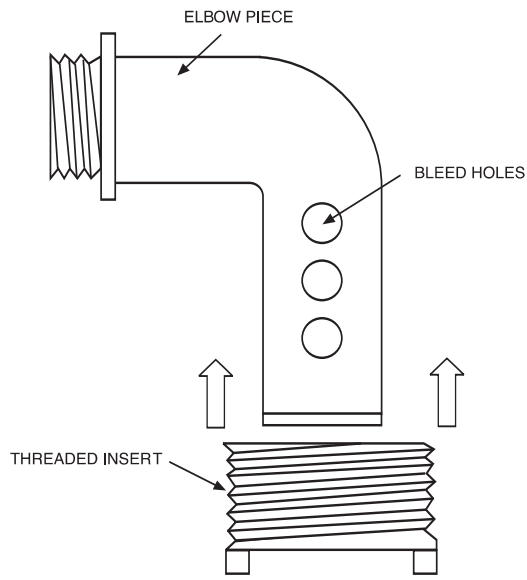

FIGURE 4
2. Slide the threaded insert (7) over the Elbow Piece (8) as shown in Fig. 4. The threaded insert (7) is a tight fit around the turn in the Elbow Piece (8), therefore, slight pressure is needed. This is your inlet adapter.
3. Refer to Figure 1. Uncoil the hose (5) and remove all twist. Using clamps (17), clamp one end of the hose to the back side of the fountainhead (1) and the other end to the inlet adapter from step 2. Cover one set of bleed holes with the hose (Fig. 4). To tighten clamp, grasp "tabs" between thumb and forefinger and squeeze. Tighten securely with a pair of pliers. To open the clamp, grip one "tab" of the clamp with pliers and twist loose.
4. Using the tie wrap (16), LOOSELY attach the anchor (6) to the hose (5). The anchor (6) should be attached to the hose (5) at a point as deep as the water plus approximately two feet. You will have to estimate what the water depth is where you want the fountain and add two feet. CAUTION: DO NOT CONSTRICT THE HOSE BY TIGHTENING THE TIE WRAP (16) TOO TIGHT.
6. Place the fountain assembly into the pool. Position the fountain in the desired location being careful not to crimp the hose (5).